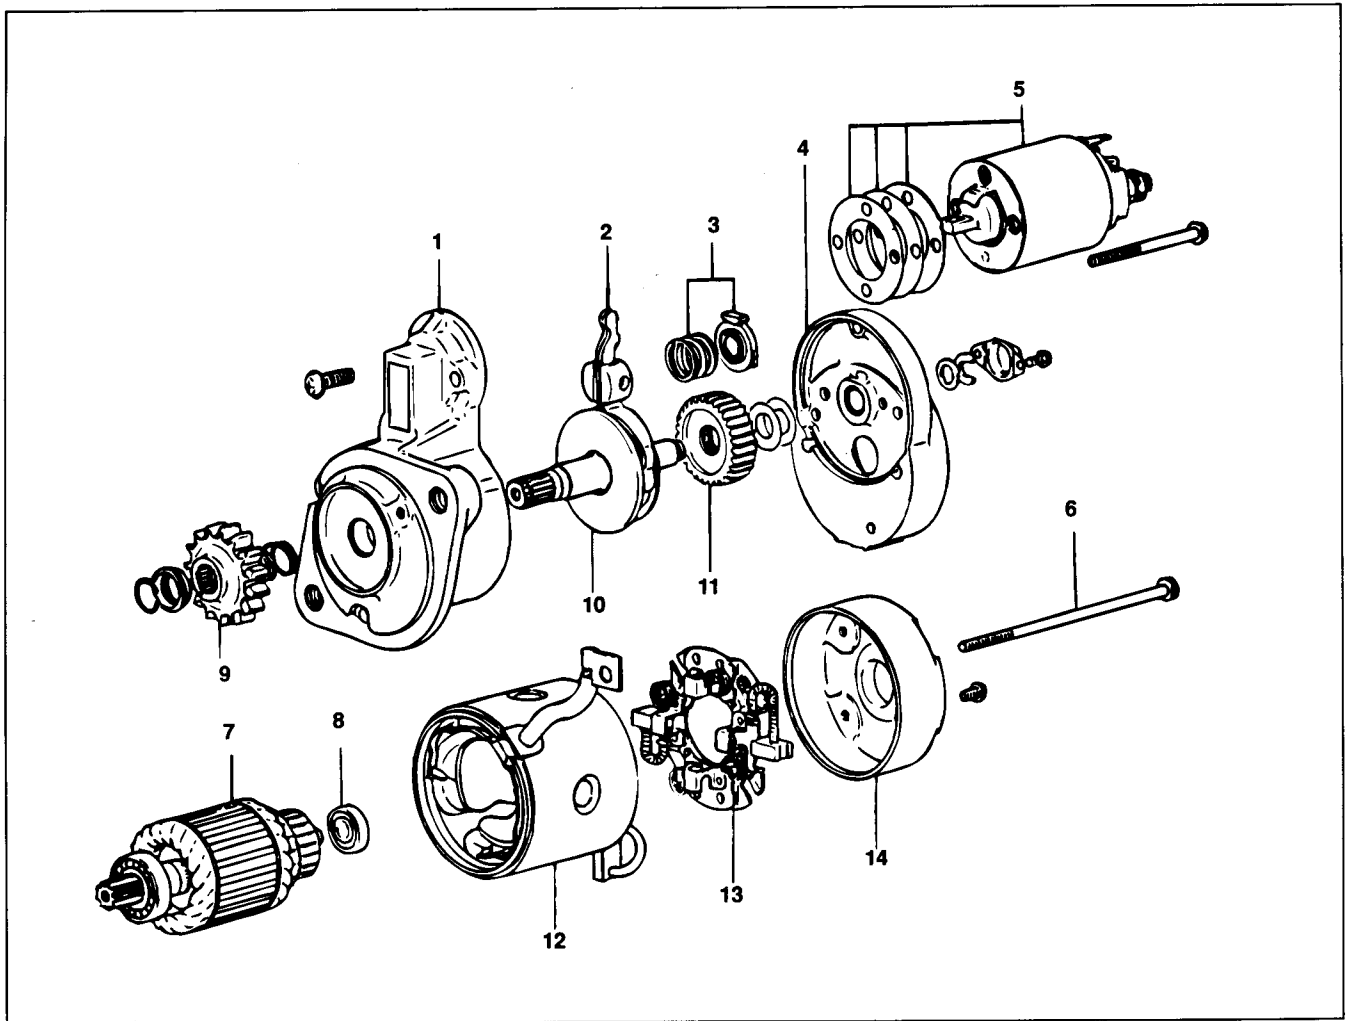

Figure 40
3. Loose two screws securing the magnetic switch (Fig. 40). Remove the magnetic switch.